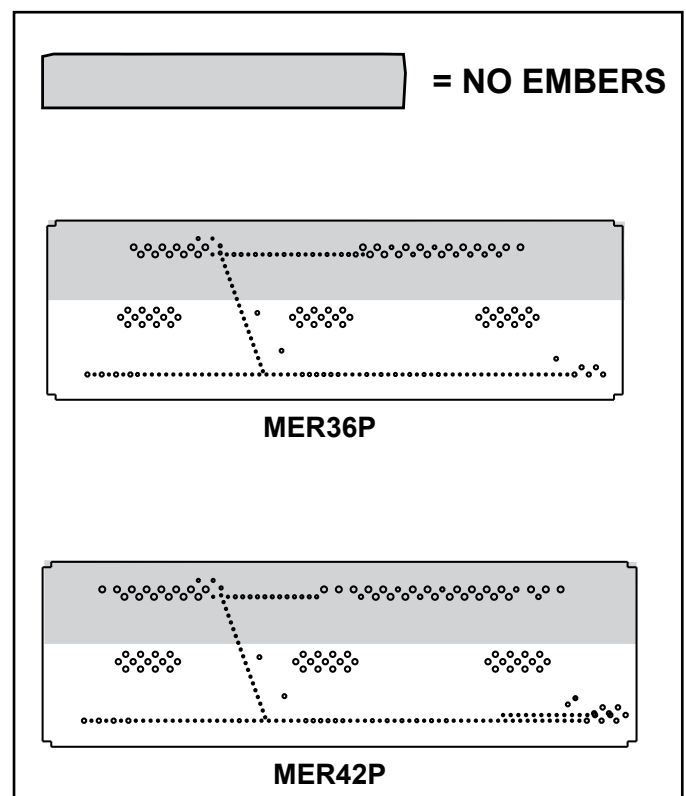

Figure 11.11 Burner Media / Ember Placement
- Embers may only be placed in areas as shown in Figure 11.11.